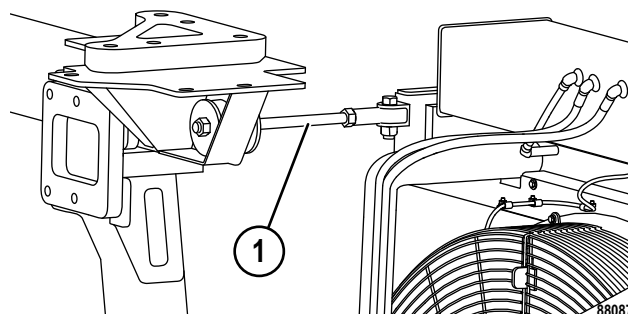

FIGURE 50-12. UPPER SUPPORT ROD
22. Remove upper support rod (1, Figure 50-12) at both sides of the radiator.